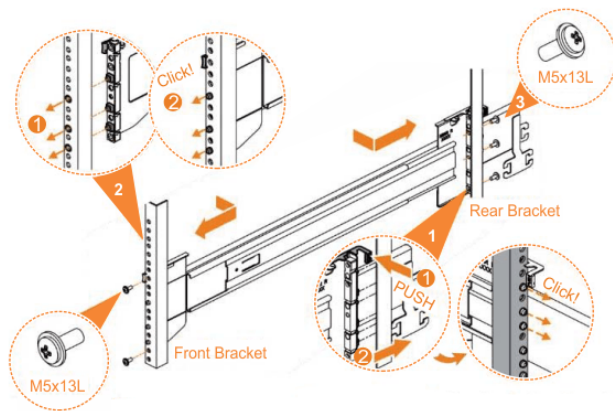

Figure 47. Installing the rail assembly to the rack frame
6. Use the M5 screws to install the outer rail member and bracket assembly to the rack, as shown in Figure 47 on page 85.